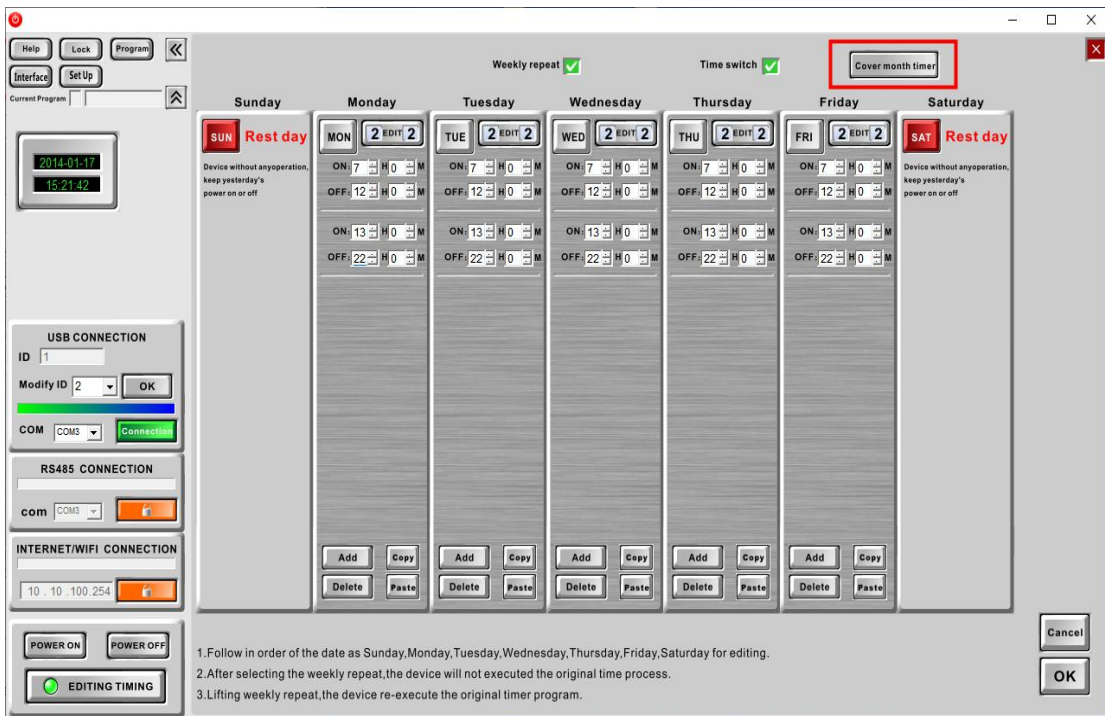
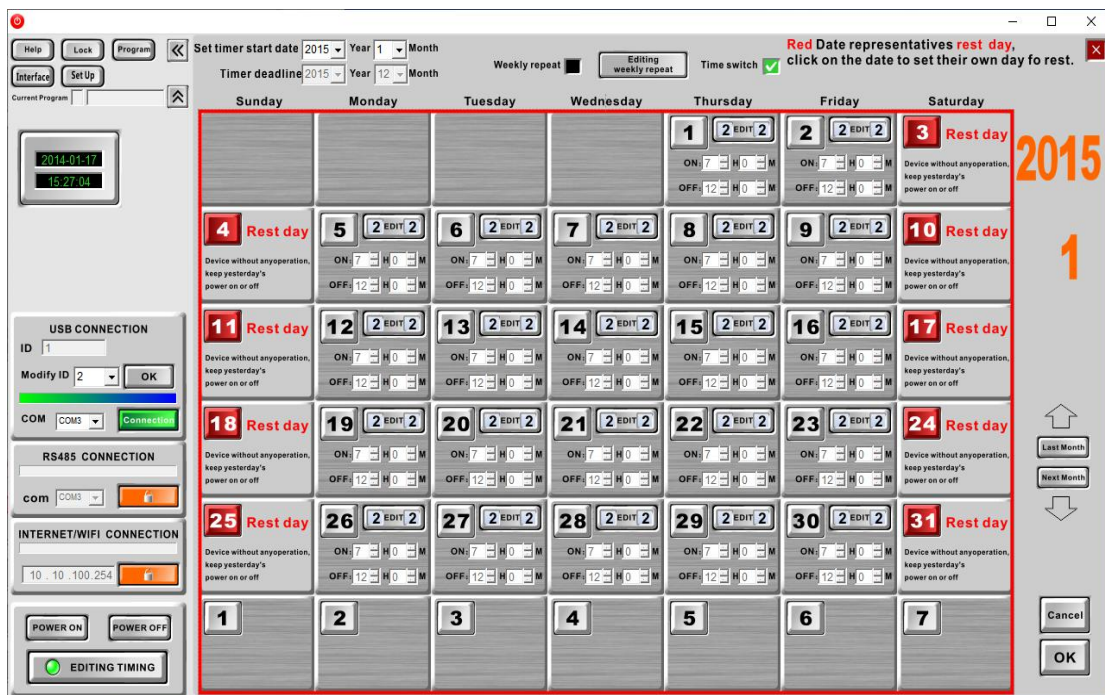

Figure 28
Figure 29
Step 2: Click "Overwrite monthly timed" (as shown in Figure 28) to overwrite the data to the monthly timed. As shown in Figure 29 below.